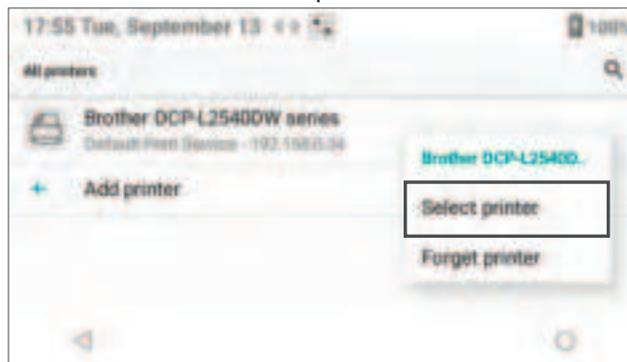

Figure 87: Select Printer
- Default printer configuration:** The last printer used by the instrument will automatically become the default printer. The default printer will be the first printer displayed in the list of available printers. To select an existing printer, select and hold the desired printer and then select **Select printer** (Figure 87).